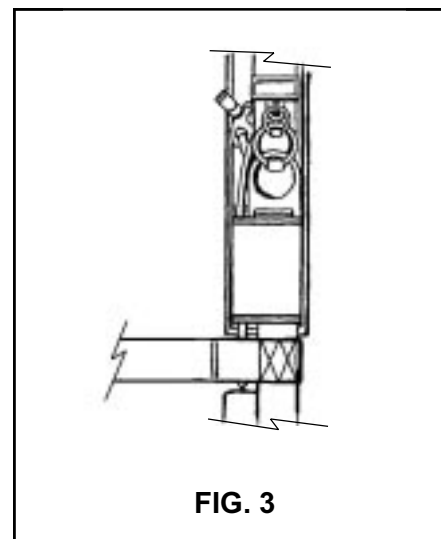

FIG. 3
4b. If the reserve canopy has no diaper, or is equipped with only a partial diaper, the suspension lines must be stowed in the container. Lay the risers in the container so that the connector links are in the lower corners (FIG. 2) and make the first stow of suspension lines in the lower left corner. Continue upward, making the stows the full width of the pack tray (FIG. 3).
Then the snap-shackle can be connected to the small ring behind the inboard side of the left main riser (**FIG. 3**).
4. Bring the white loop over the small ring only and then through the riser grommet so it pokes out the back of the riser (**FIG 3**).